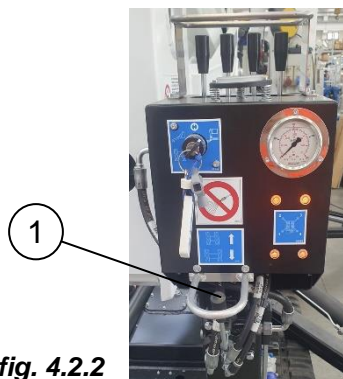

fig. 4.2.2
Extend the carriage by moving the carriage extension lever (**pos.1 fig. 4.2.2**) downwards until full expansion.
Close the carriage by moving the carriage extension lever (**pos.1 fig. 4.2.2**) upwards until full closure.